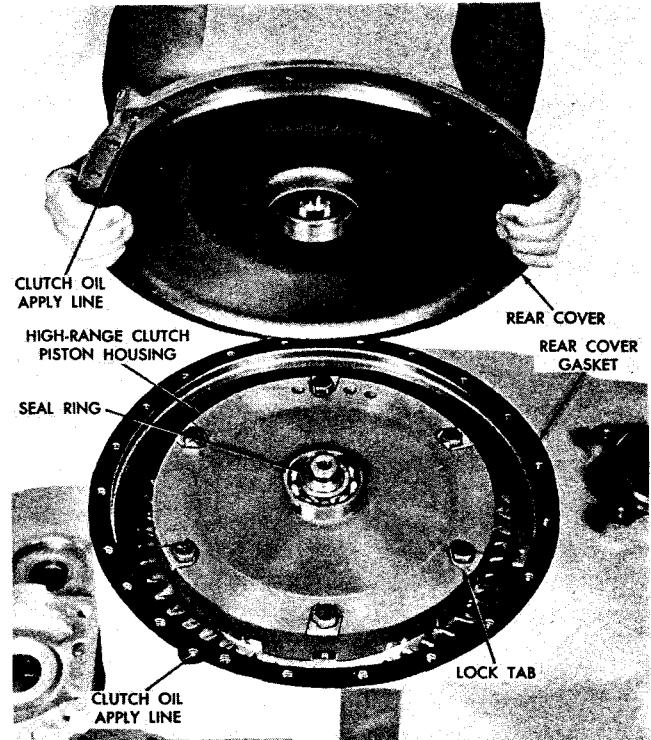

Fig. VII-5. Installing rear cover and gasket
(6) Install six 1/2-20 x 2 3/4 bolts and six lock tabs. Bend the lock tabs to lock bolts (fig. VII-5).
(7) Install rear-cover gasket and rear cover (fig. VII-5). Aline the clutch oil apply line in the cover with the oil apply line in the housing.
(8) Install twenty-one 3/8-16 x 1 1/8 bolts and 21 lock washers.
(10) Install the rear cover and gasket and twenty-one 3/8-16 x 1 1/8 bolts and lock washers (fig. VII-5).
(11) If the unit is equipped with a brake assembly, install as instructed in 2i, 2j and 2l (1), above.